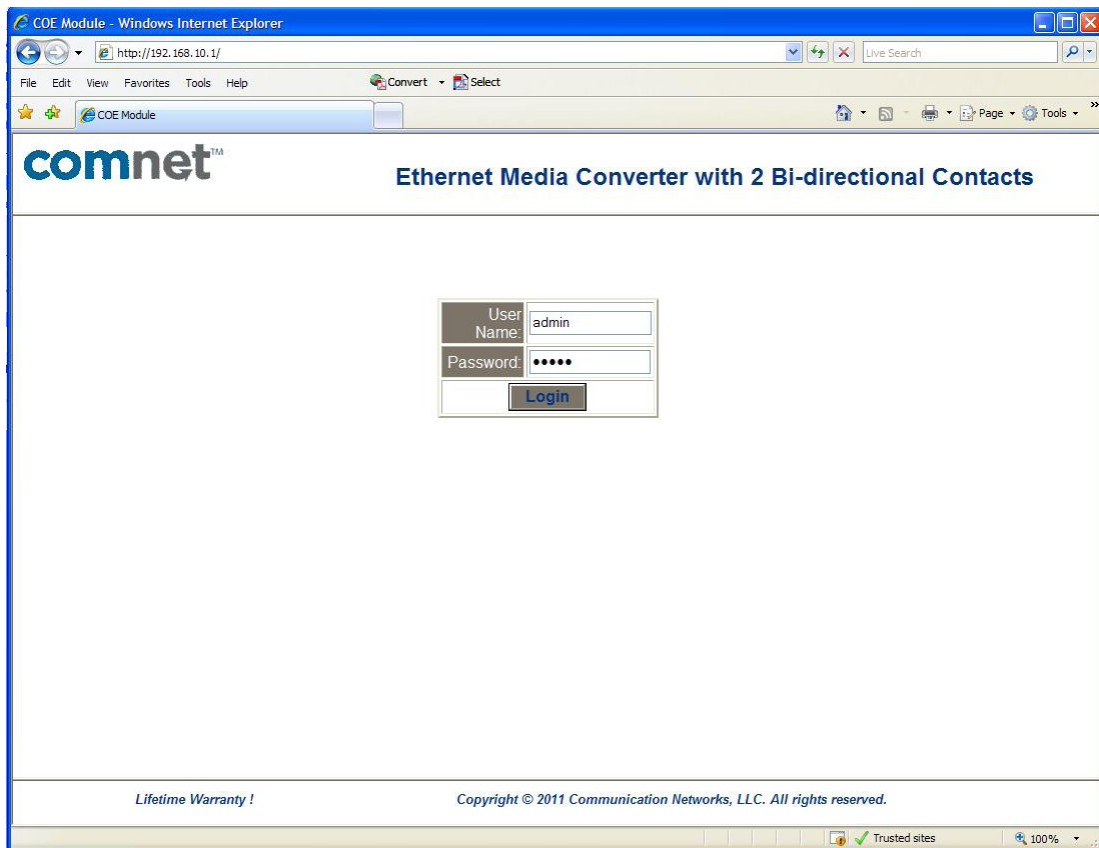

Figure 4 - CNFE2MC2C[/M] Log in Page
- » Open the browser on your PC, and type in **192.168.10.100** to reach the Media Converter Log In page (Figure 4).